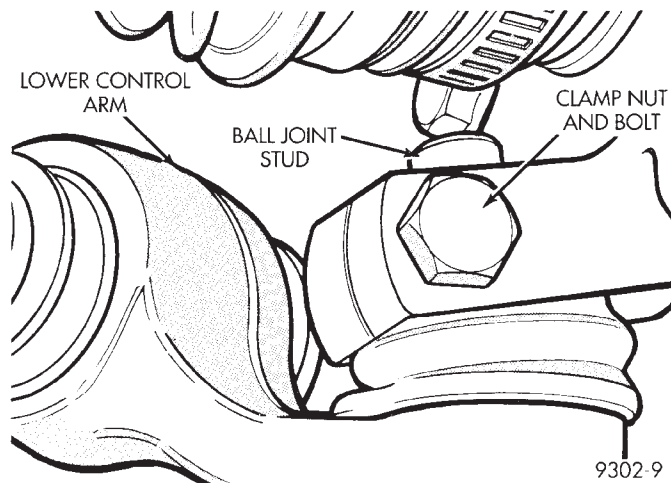

Fig. 10 Control Arm To Steering Knuckle Attachment
(1) Raise vehicle on jackstands or centered on a frame contact type hoist. See Hoisting in the Lubrication and Maintenance section of this manual, for the required lifting procedure to be used for this vehicle.
(2) Remove both front wheel and tire assemblies from the vehicle.
(3) Remove left and right ball joint stud to steering knuckle clamp nut and bolt (Fig. 10).